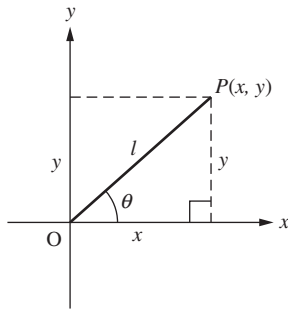

Figure P3.14 A one-link planar robot for problem P3-14.
- 3-14.** Consider the one-link planar robot shown in Fig. P3.14. If $l = 5$ cm, sketch the position of the tip of the robot and determine the (x, y) coordinates of position P for
- 3-16.** Consider again the one-link planar robot shown in Fig. P3.14. Determine the length l and angle θ if the tip of the robot is located at the following points $P(x, y)$.